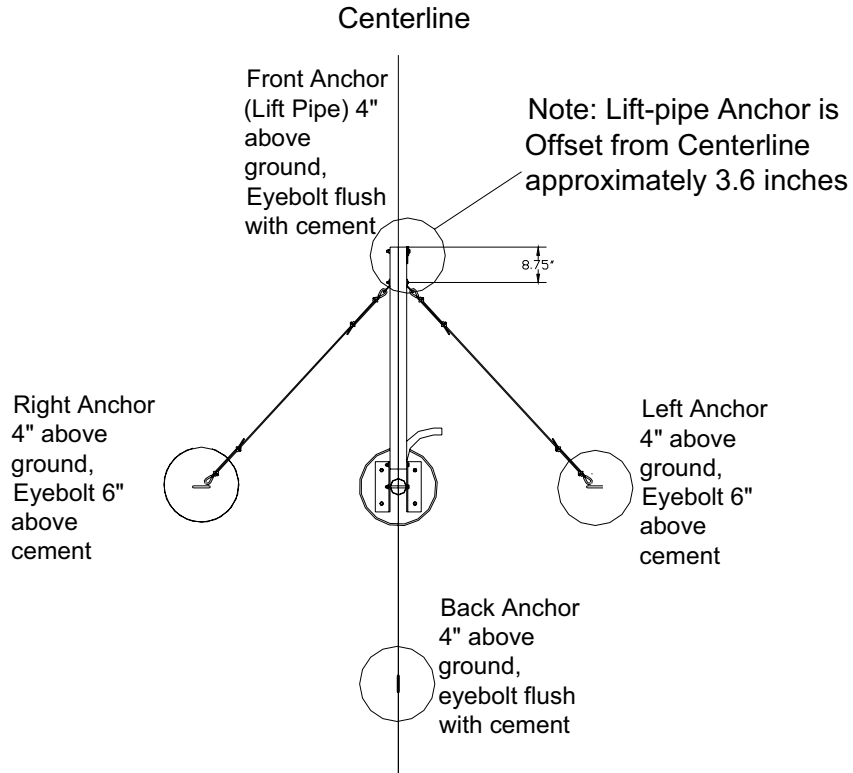
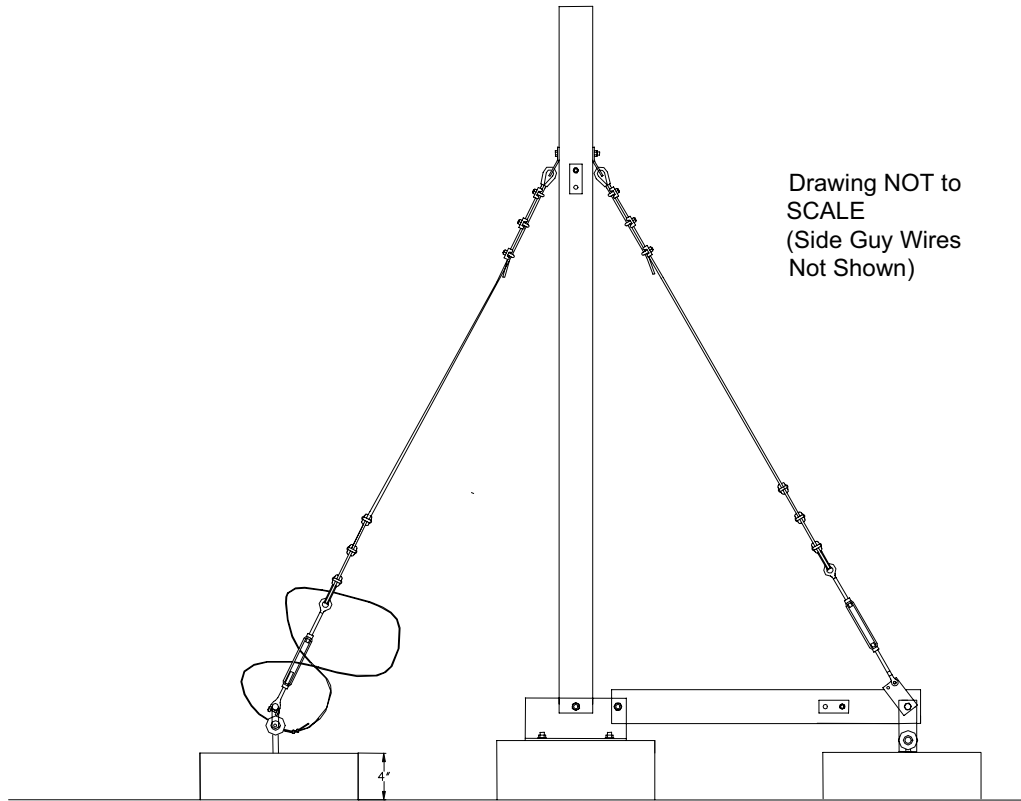

Figure 7: Birdseye View of Anchors and Lift-Pipe (Ginpole)
Figure 8: Tower Assembly Side View
This tower kit must only be erected on a calm day (no wind). The tower base and anchors should be laid out as described in Figure 2 and Figure 7. **The tower will be assembled laying on the ground and then tilted up into position.**
Carefully study *Figure 2 and Figure 7* to help you determine how much space you will need to raise your tower, which is pulled up from the lift anchor. Be especially aware that the concrete anchors are 4 inches above ground level. The lift anchor is slightly off-center (3-4 inches) in order to be assembled with the metal links. Keep both things in mind while you dig and build your concrete anchors.
The base anchor should be 6 inches above ground level. The four guy wire anchors should be 4 inches above ground level (see Figure 2). The two side anchors should have the center of the 3/4" x 12" eyebolt located **6 inches** above the top of the concrete anchor (see Figure 4.3). The backside anchor and the lift-pipe anchor should have the center of the 3/4" x 8" eyebolts **1.5 inches** above the concrete anchor (see Figure 4.2). The lift anchor has hardware and plates that connect it to the lift-pipe anchor (see Figure 4.1 and 4.2), and if you do not level the anchors appropriately you will have problems installing the kit. Also, the anchor for the gin pole is offset to the side between 3 and 4 inches to accommodate the linkage hardware (see Figure 7). See Figure 4.2 and Figure 8 for details.
- Attach the side anchor guy wires to the gin pole as shown in Figure 7.
Figures 7, 8, 9.1 and 9.2 show details on how the guy wires should be assembled. Make sure you measure the length of the guy wires correctly, otherwise they will not be the proper length and you will spend much time resetting them.